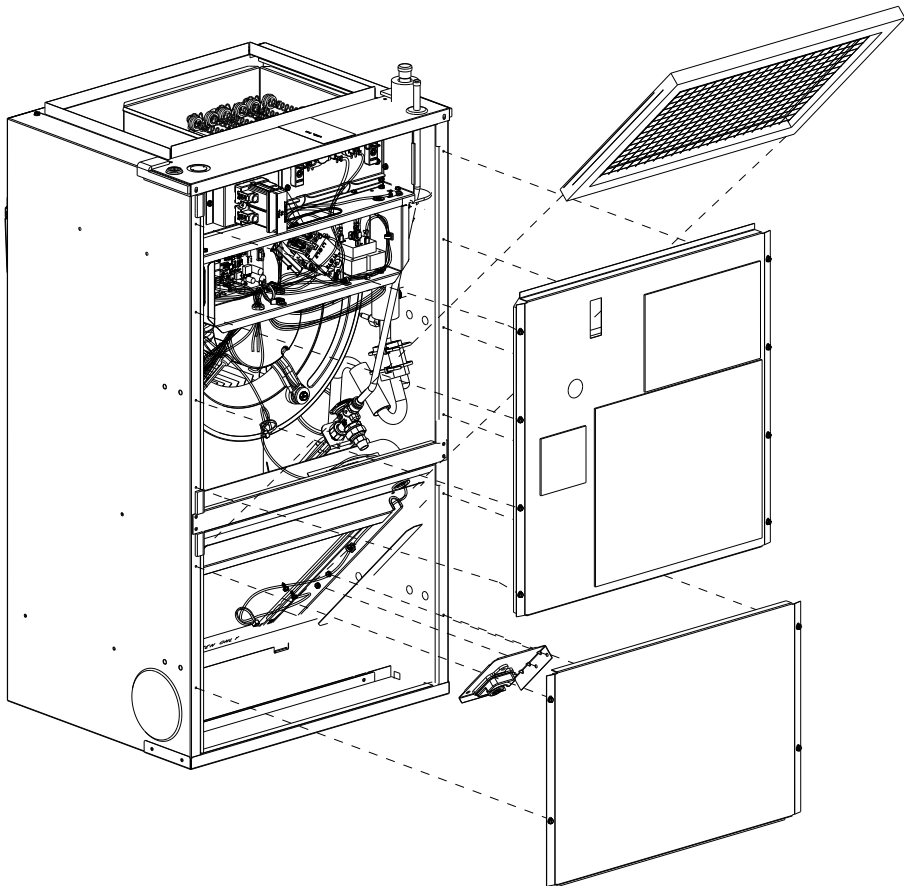

FIGURE 7
- Remove the front bottom panel by unscrewing the 4 screws shown in figure 7 (In some cases it might have already been removed due to front return setup. Skip this step if that's the case).
- Mount the front bottom panel by screwing the 4 screws shown in figure 7 (In some cases it might have already been removed due to front return setup. Skip this step if that's the case).